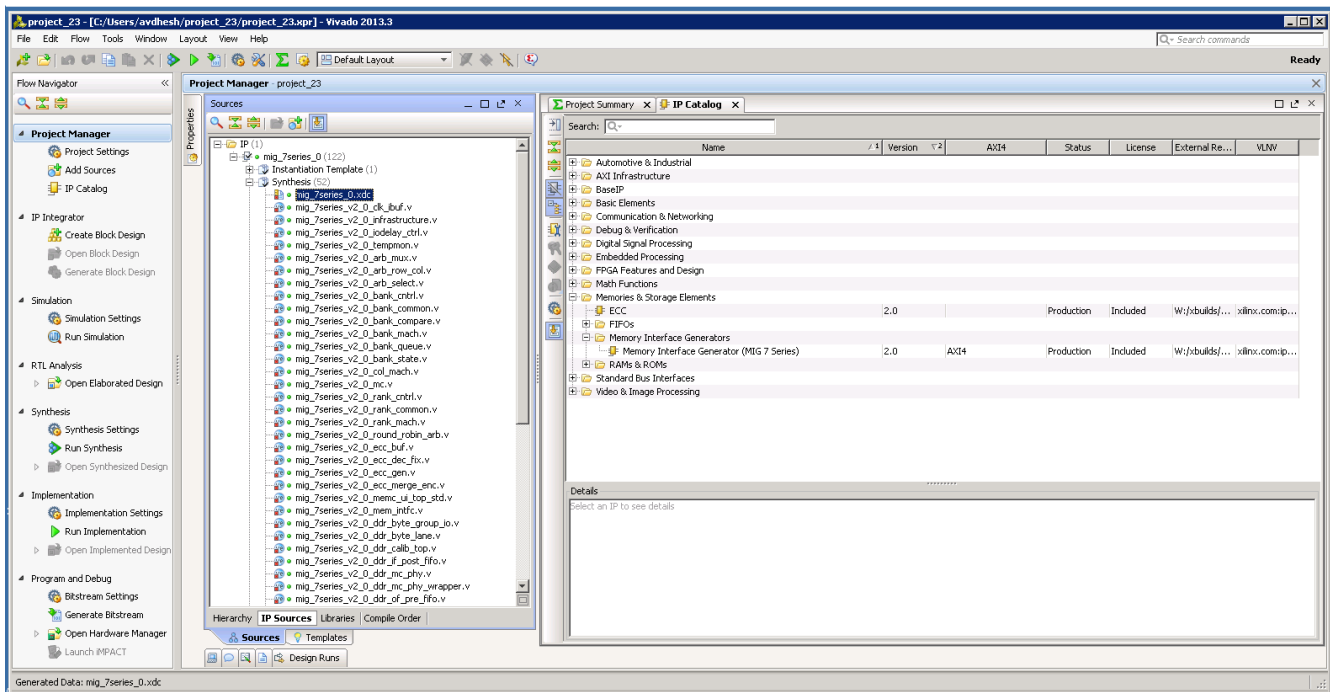

Figure 4-33: Vivado Project – RTL and Constraints Files
- All user-design RTL files and constraints files (XDC files) can be viewed in the **Sources > Libraries** tab (Figure 4-33).